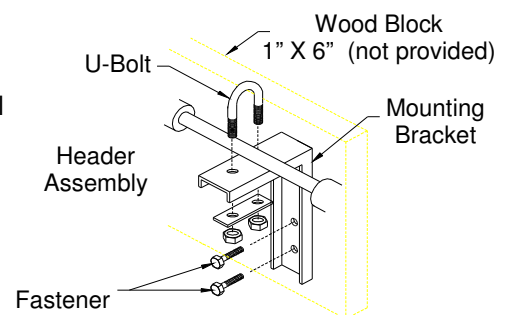

FIGURE 4
4. Mark the mounting holes and install fasteners suitable for the type of wall construction. (Figure 4)
5. Install the brackets. (Figure 4)
6. Mount the manifold by placing the header on the brackets. Fit the U-Bolt over the header pipe and tighten the two mounting nuts. (Figure 4)